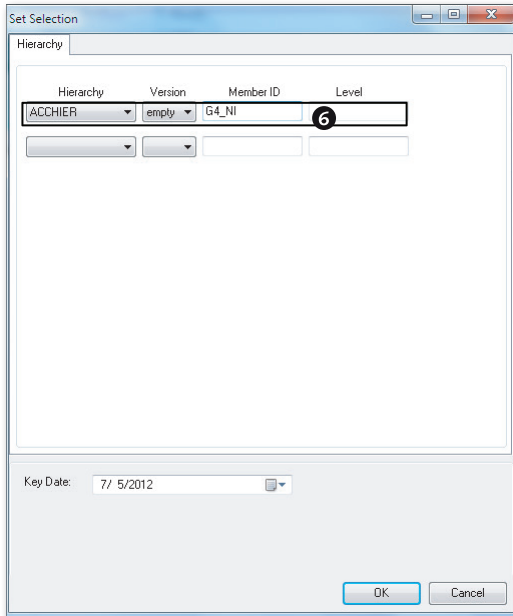

Figure 4.46 Loading Hierarchy Data from an InfoObject into a Dimension—Part E
7. In the SET SELECTION dialog box, select the technical name of the hierarchy nodes and the number of levels you want to load from the InfoObject. In our example, we will load the entire hierarchy from the top node (Figure 4.46, ④). Click on OK to transfer the selections, and then click on NEXT to go to the next step. You will be prompted to select the transformation file and the dimension to which this data is loaded.